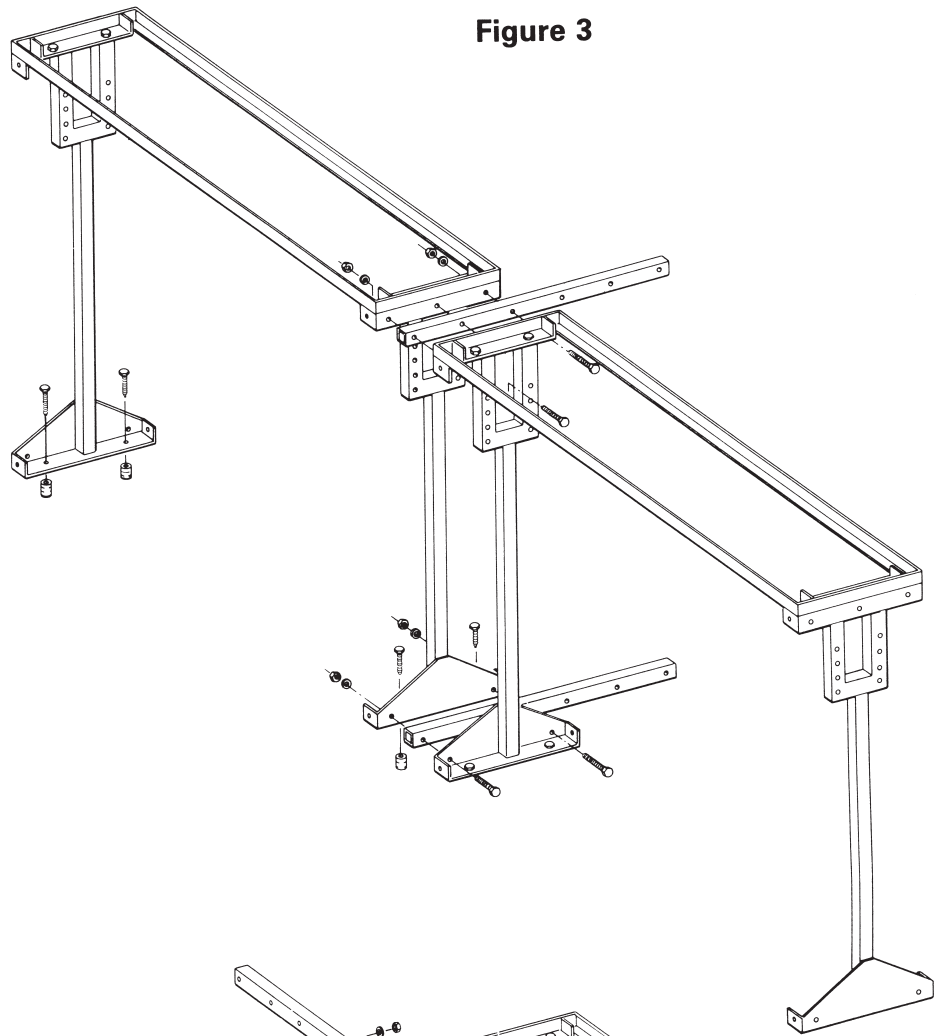

Figure 3
4) ASSEMBLING TANK STANDS END-TO-END - See Figure 3
- D) Bolt the 1st Tank Stand, Connector Bar and 2nd Tank Stand together, loosely, at the base using (2) $\frac{5}{16}$ " x $1\frac{3}{4}$ " Bolts with Nuts and Lockwashers.
- E) Position Connector Bar holes with the three holes in the top of the Tank Stand Legs and bolt the two Tank Stands together using (2) or (3) $\frac{5}{16}$ " x $1\frac{3}{4}$ " bolts with Nuts and Lockwashers. Tighten the Bolts at the base of the Tank Stand Legs.
- H) Bolt a Connector Bar to the base of the unattached Leg of the 2nd Tank Stand, using (2) $\frac{5}{16}$ " x $1\frac{3}{4}$ " Bolts with Nuts and Lockwashers. Leave the excess length of Connector Bar "behind" the Tank Stand, out of the traffic flow. This Connector Bar can be mounted at the top of the Tank Stand Leg and secured to a nearby masonry wall if desired.